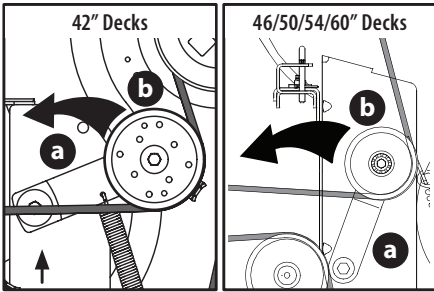

Figure 37
- Using the deck lift pedal and knob, raise the deck to the position that provides the most horizontal run of the belt between the deck idler pulleys and the PTO pulley on the bottom of the engine (Figure 37 on page 29).
- Working from the middle of the tractor, pivot the idler bracket (a) and movable idler pulley (b) rearward just far enough to lift the belt up and over the spindle pulley (Figure 37 on page 29).